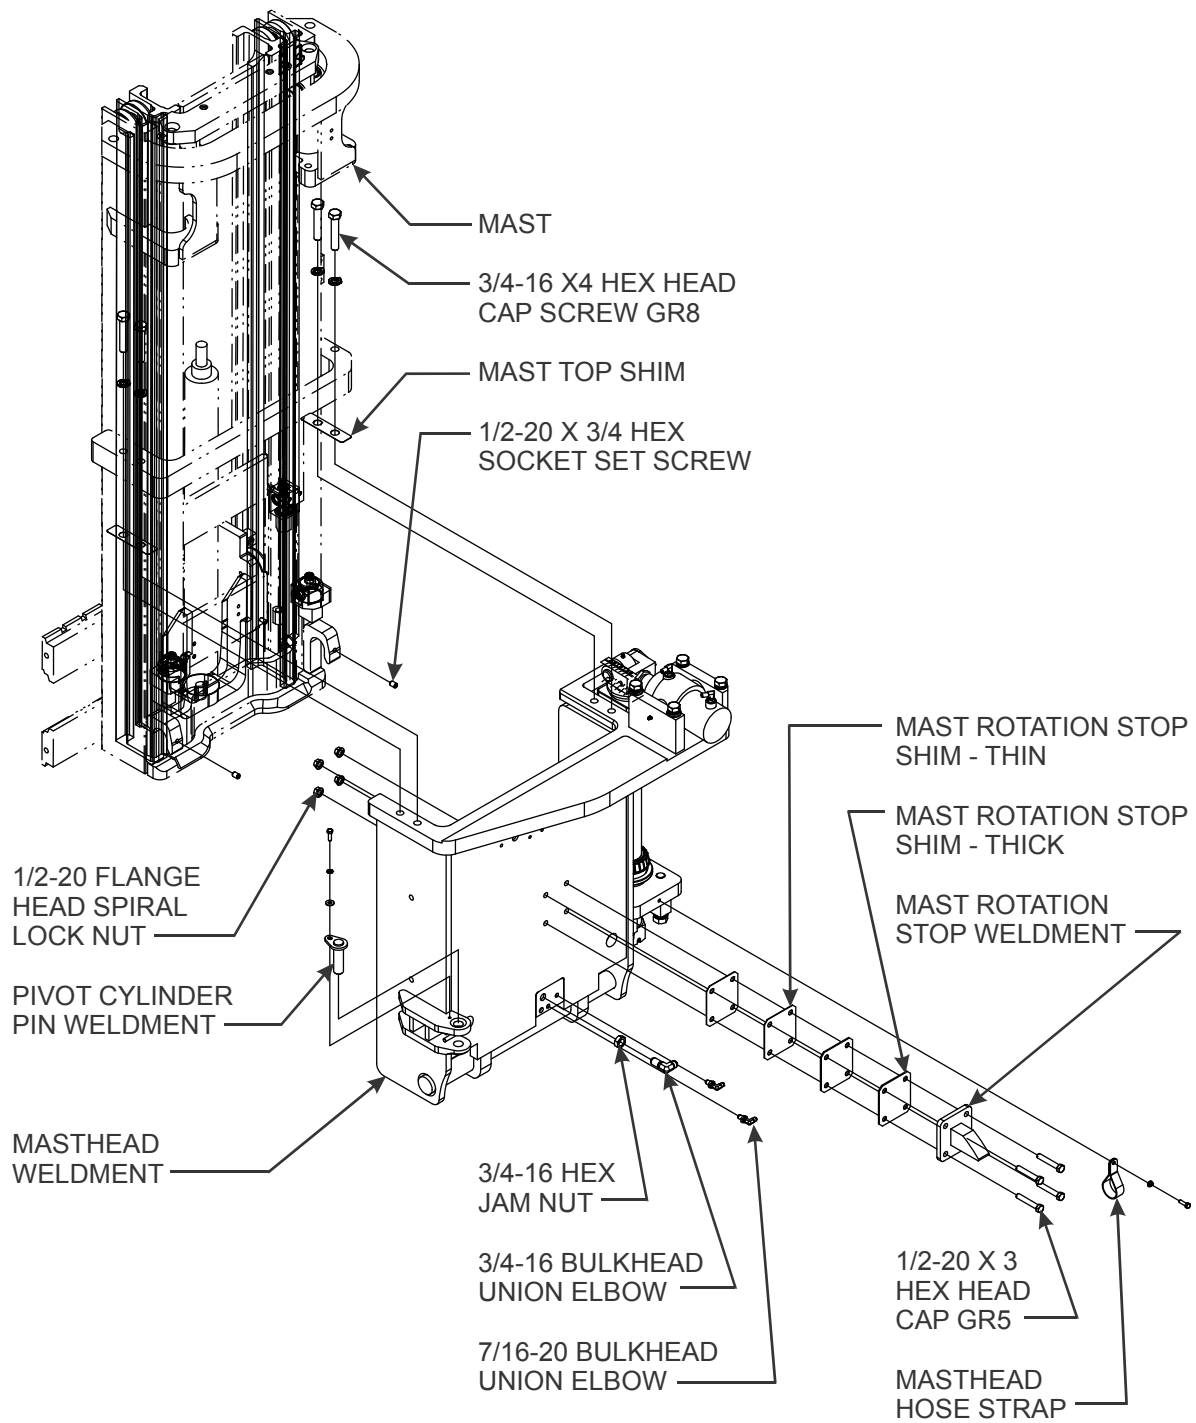

Figure 3-3: Masthead Assembly (1 of 3)
6. Remove pivot cylinder pin weldment (See Figure 3-3).
9. Swing out the mast and masthead weldment (See Figure 3-3).
1. Remove pivot cylinder pin weldment (See Figure 3-3).